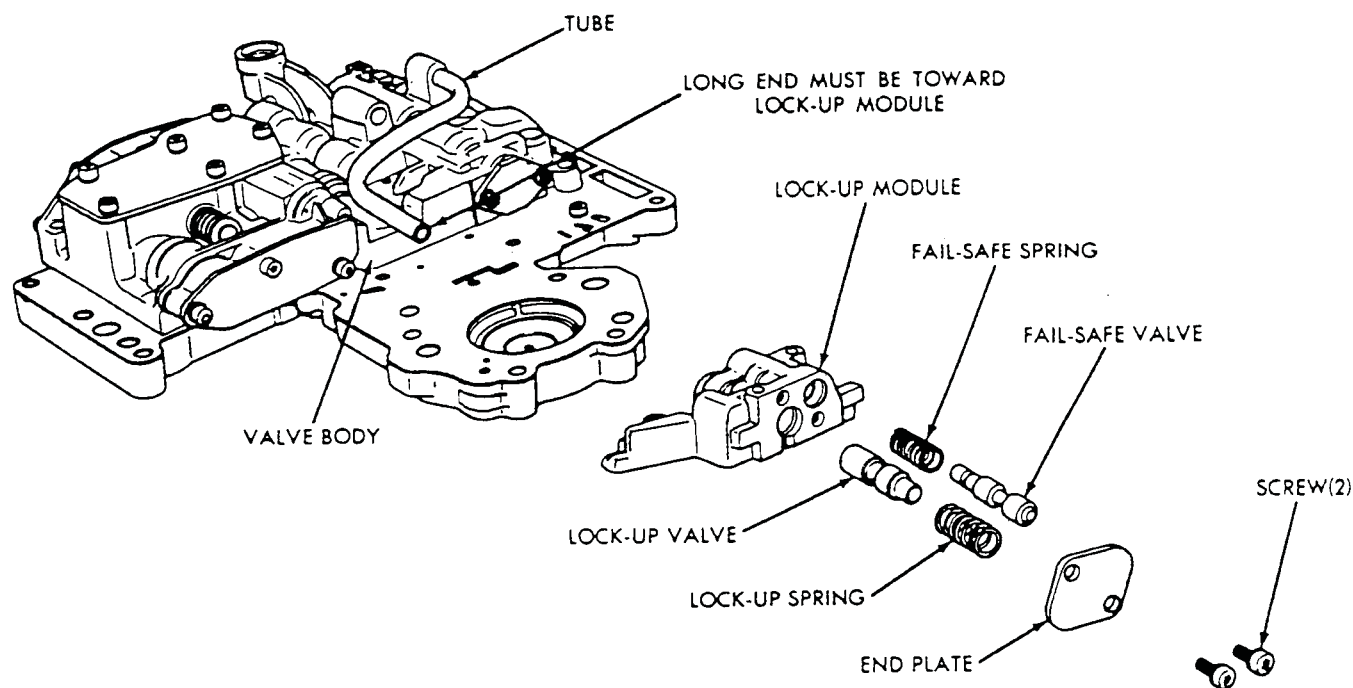

FIGURE 1
2. Lower valve body just enough to remove torque converter lock-up spring, replace with supplied spring, PN 4202672. Re-use the existing lock-up valve, fail safe valve and spring, cover, and screws (Figure 1).